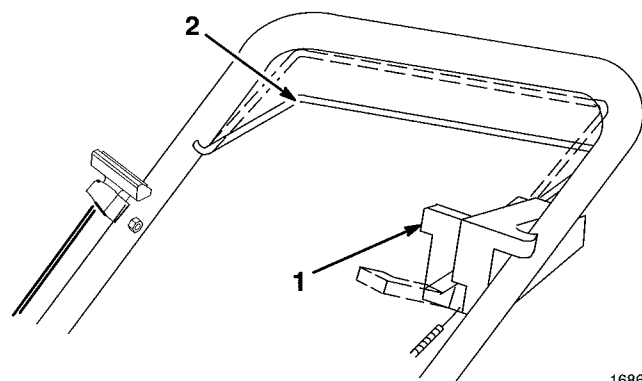

Figure 10
3. Lower control bar halfway and move traction control lever backward (toward operator) (Fig. 10).